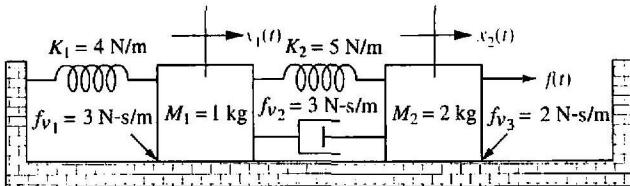

FIGURE P2.12
26. For the system of Figure P2.12 find the transfer function, $G(s) = X_1(s)/F(s)$. [Section: 2.5]